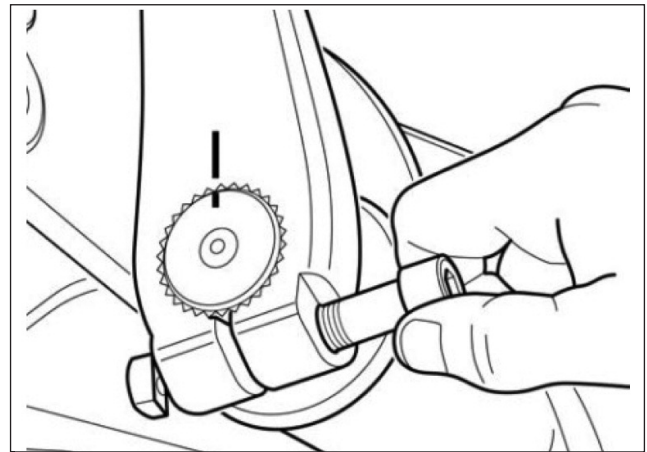

Fig. 3.12
12. If needed adjust the lever position but do not close the new screw yet. - Fig. 3.12